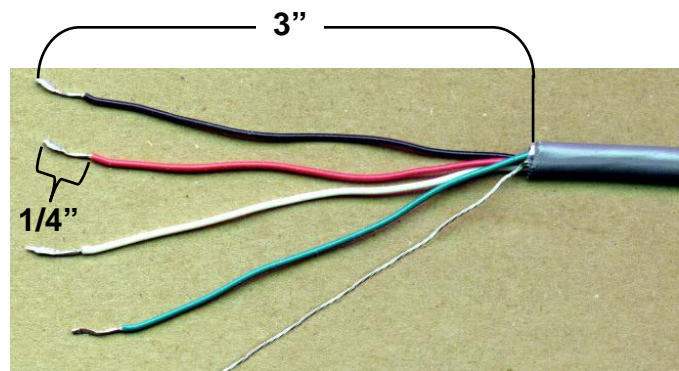

Figure No. 12
4. Referring to Figure No. 12, remove 3 inches of the outer insulation jacket of the load cell cable.